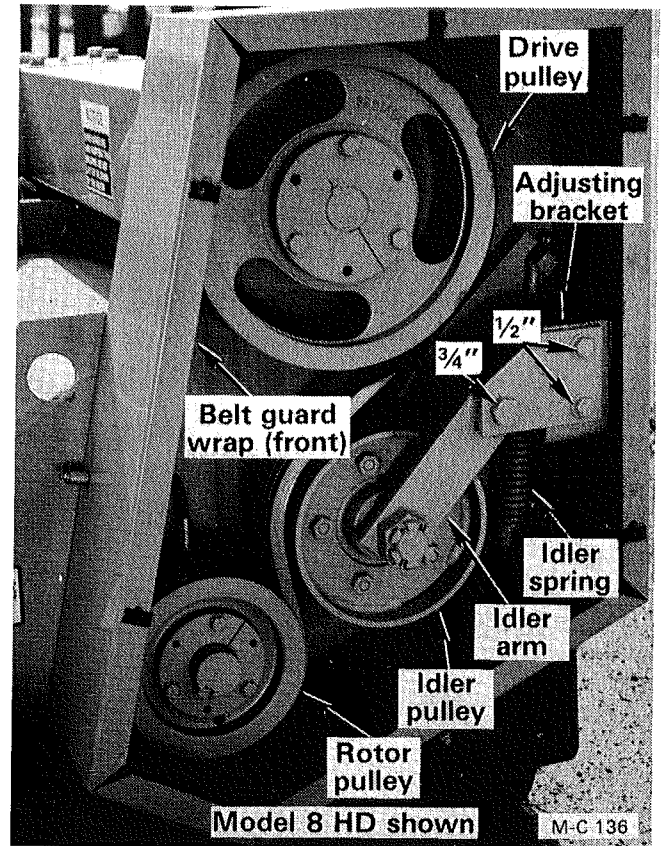

Figure 30
2. Remove the belt guard cover, front belt guard wrap and bearing lubrication hose, see Figure 30. Remove the drive belts. Refer to "Drive Belt Replacement" page 16 for procedure.